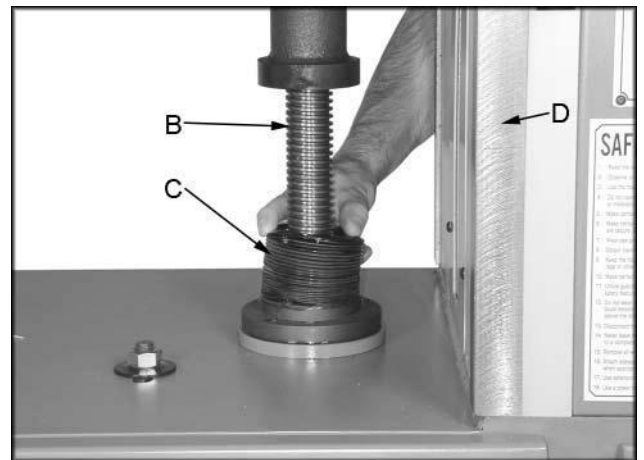

Figure 26
- Lubricate the two table elevation screws (B, Fig 26) as needed. Raise the table and remove the two screws holding the top of the accordion cover (C, Fig 26) in place. Pull the cover down and lightly grease the elevating screws, see Figure 26.
- Use an oiled cloth to wipe the ways (D, Fig 26) weekly.